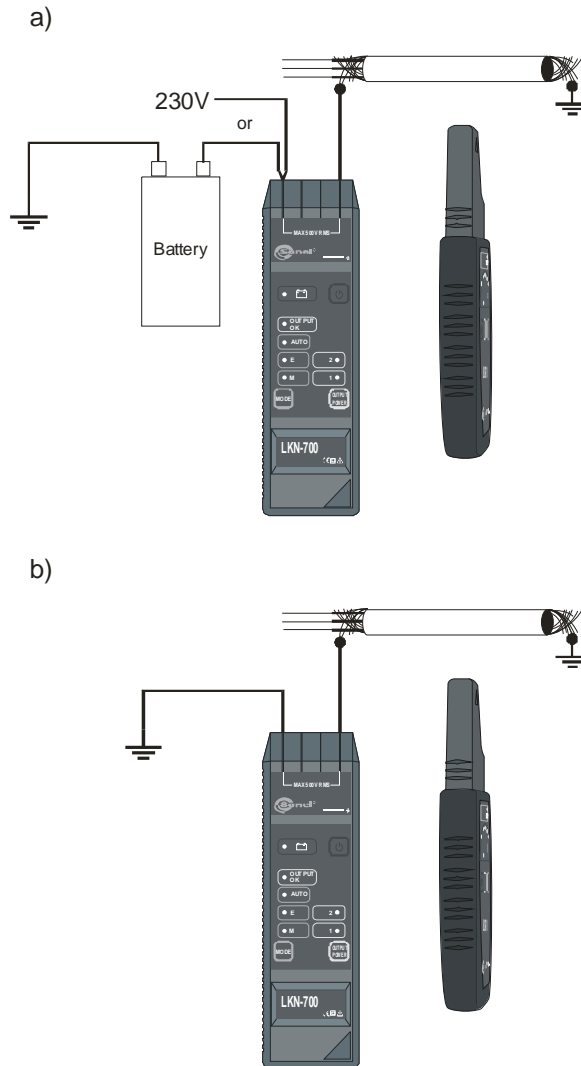

Fig.17 Tracing shielded cables routes: a) “M” mode, b) “M+E” mode
- Connect transmitter's socket **1** or **2** to the shield and the other one to the ground or to a grounded AC or DC voltage source (Fig. 17).